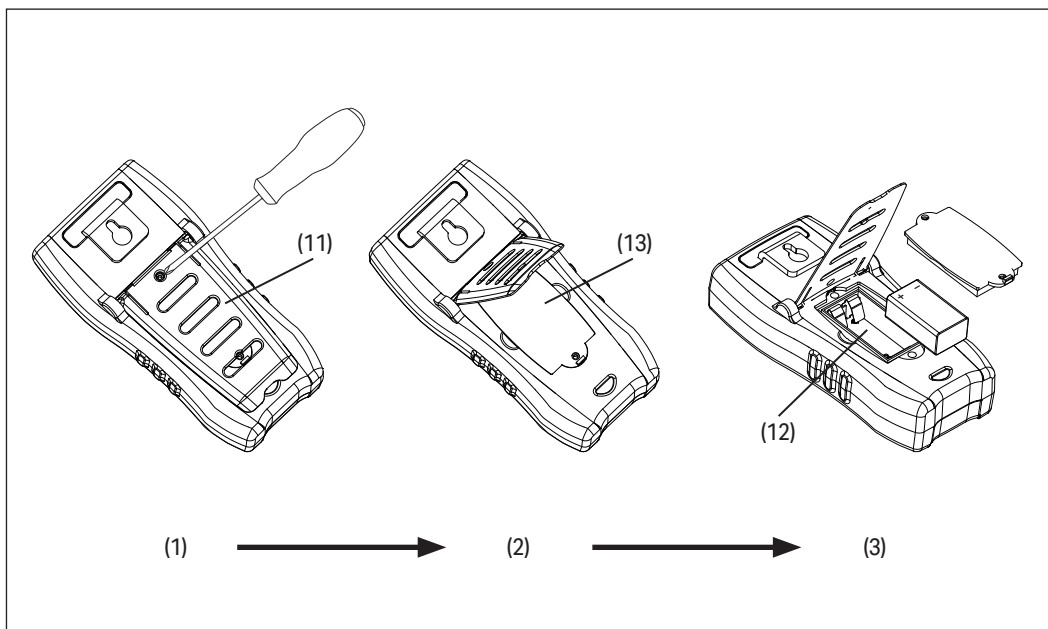

Fig. 1
6.1 Fitting the Battery - Fig. 1